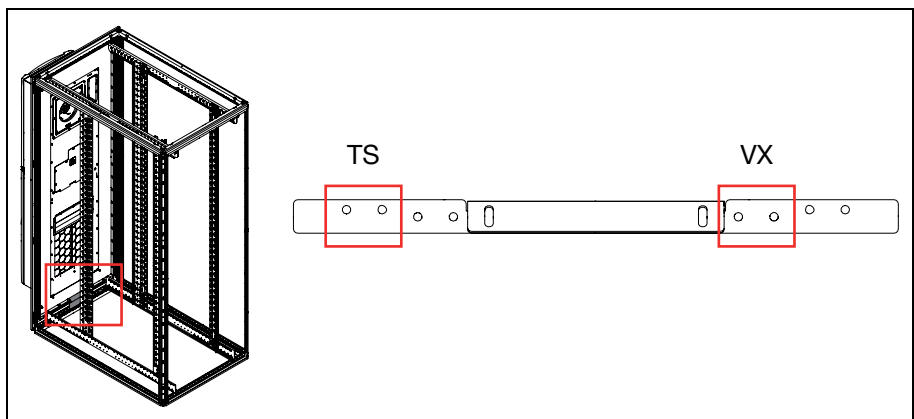

Fig. 7: Select the hole pattern
- To mount the rear angle bracket, select the corresponding hole pattern depending on the IT enclosure variant (fig. 7).